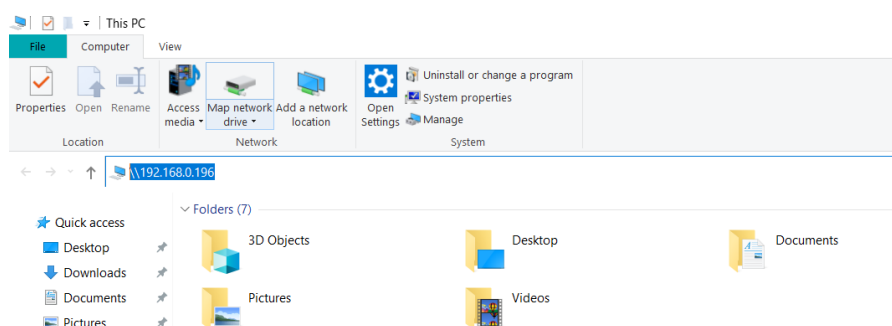

Figure 5-1 Data Copy
3. Open “my computer” (computer) and type "\\192.168.0.196" in the address box, as shown in Figure 5-1: